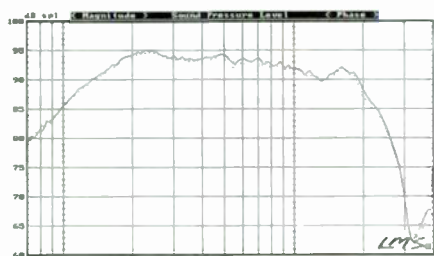

FIGURE 7: Comparison of DMS-37 (solid curve) and MDT-37 (dashed curve).
this type. Figure 7 compares the DMS-37 and the MDT-37, which are impressively identical except for the MDT-37's slight decrease in SPL. For more information on these two tweeters, contact Morel Acoustics USA, 414 Harvard St., Brookline, MA 02146, (617) 277-6663, FAX (617) 277-2415. Also available from: Madisound, (608) 831-3433; Parts Express, (937) 222-0173; Zalytron, (516) 747-3415; Solen (Canada), (514) 656-2759; ITC Electronics, (213) 388-7502; or Goldsound, (303) 789-5310.